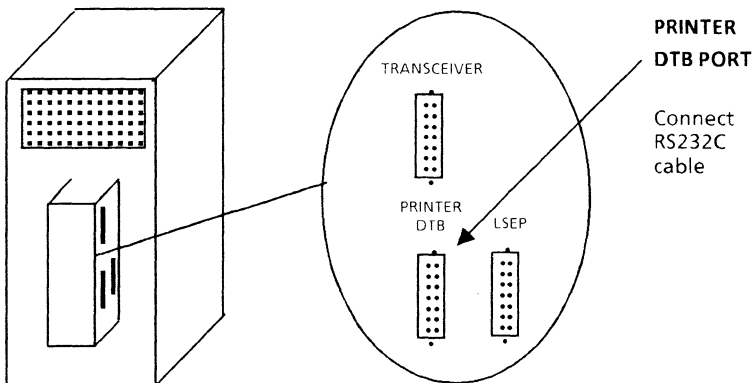

Figure 4-4 8010 processor (rear view)
2. Identify the PRINTER DTB port on the connector panel on the back of the 8010 processor (refer to Figure 4-4).
4. Connect (with slotted screws) one end of the RS232C Xerox-supplied cable (the end with the pins visible), to the port named PRINTER DTB on the back of the 8010 processor (refer to Figure 4-4). **Xerox-supplied cables must be used.** To ensure proper connection to the workstation, gently tighten the screws.